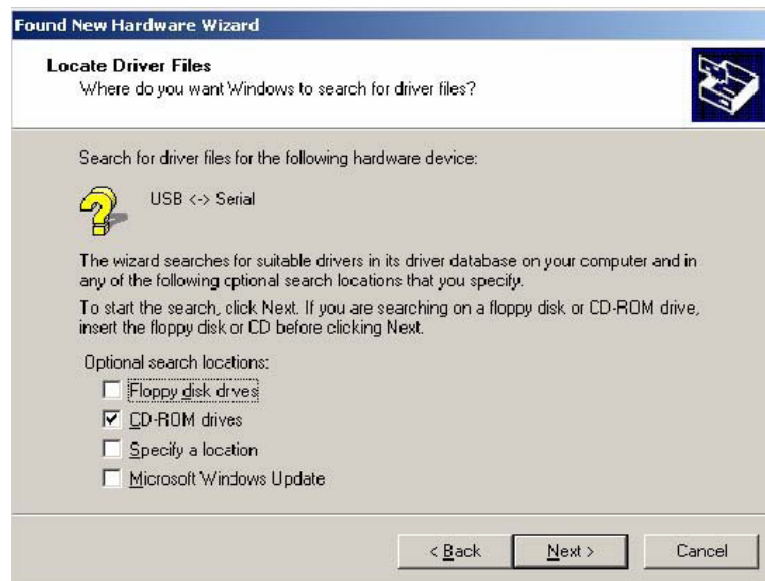

Figure 3
2. Select the **CD-ROM drives** check box, clear all other check boxes, and then click **Next** (Figure 3).